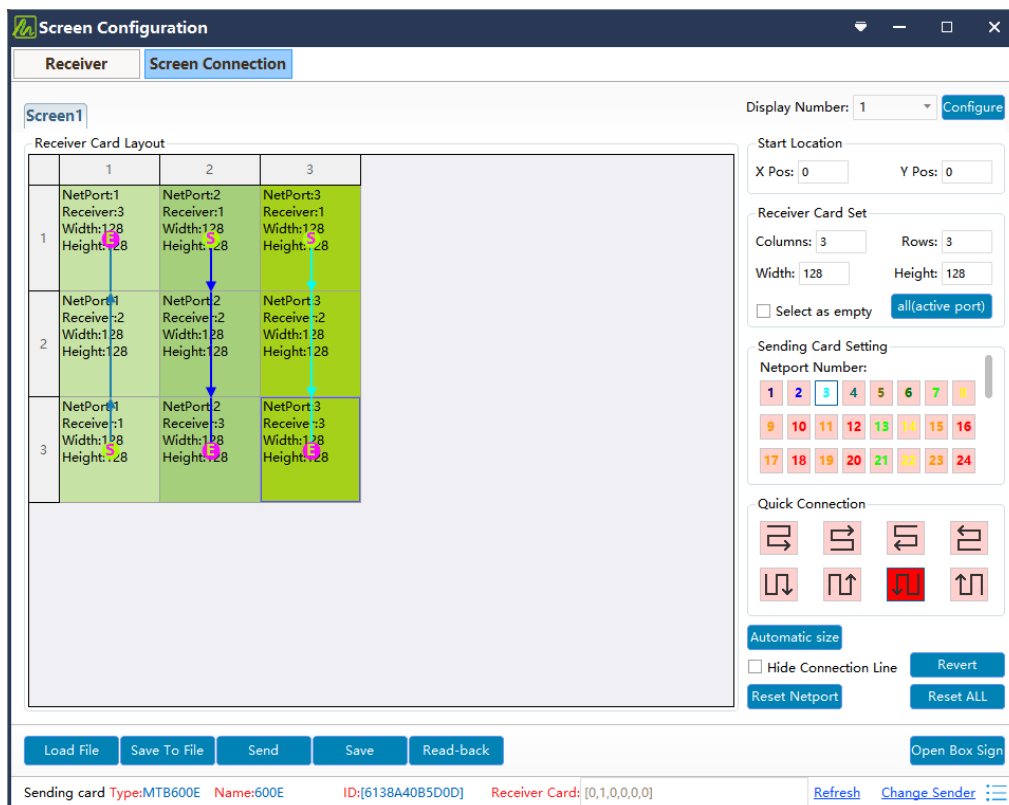

Figure 4-2-14 Screen connection through an Ethernet distributor
- Select the required distributor address and complete the screen connection, as shown in Figure 4-2-14.